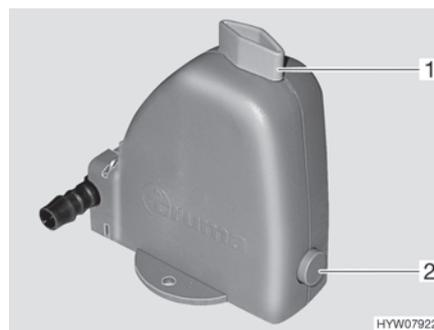

Fig. 124 Safety/drainage valve
The heater is equipped with a safety/drainage valve (Fig. 124). The safety/drainage valve prevents water for the production of hot water from freezing, when there is frost and the heater is not switched on.
- Close the safety/drainage valve. Turn the knob (Fig. 124,1) perpendicular to the safety/drainage valve and push the push button (Fig. 124,2) in.
- Open the safety/drainage valve. To do this turn the knob (Fig. 124,1) parallel to the safety/drainage valve. The push button (Fig. 124,2) jumps out. The domestic water container is emptied to the outside through the safety/drainage valve.